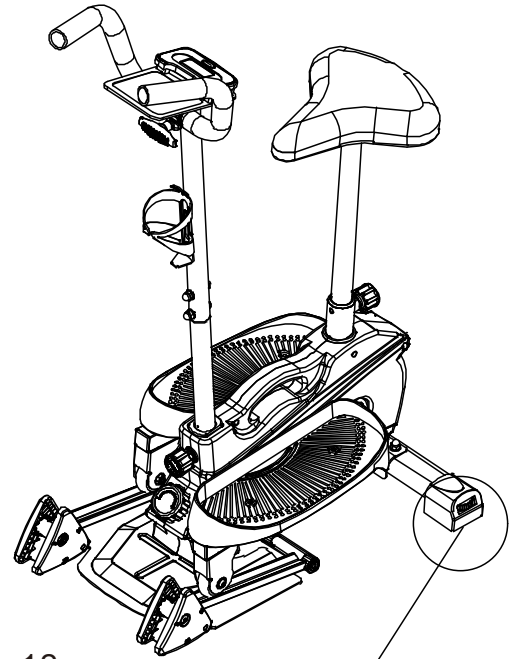

Figure 12
12. After assembling all the components, check the screws at each part to ensure they are securely tightened before using. As shown in Figure 12: